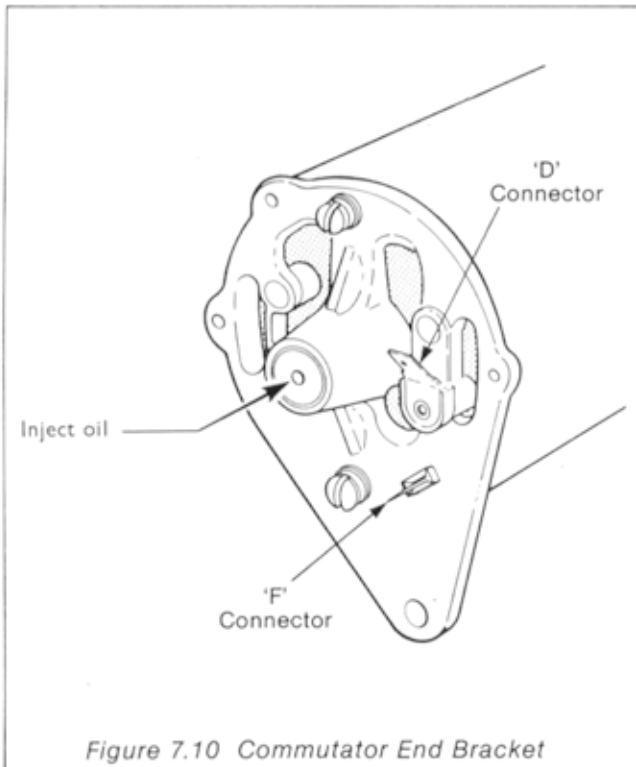

Figure 7.10 Commutator End Bracket
## Polarisation (Figure 7.10)
7.25 The armature shaft bearings consist of a ball bearing at the drive end and a bearing bush at the commutator end. The ball bearing is packed with grease which provides adequate lubrication until a major overhaul of the dynamo is required. The bearing bush, however needs lubrication every 6 months or 700 running hours. To lubricate the bearing use a force-feed oil can and inject a small quantity of clean engine oil in small hole marked OIL on the end-face of the bearing bush housing of the commutator-end bracket as shown in Figure 7.10.
- (1) Disconnect the 'D' and 'F' leads at the commutator end bracket (Figure 7.10).
- (2) Connect a voltmeter between 'D' terminal and earth.
- (3) Run the engine and check that the voltmeter reads 1.5V to 3.0V.